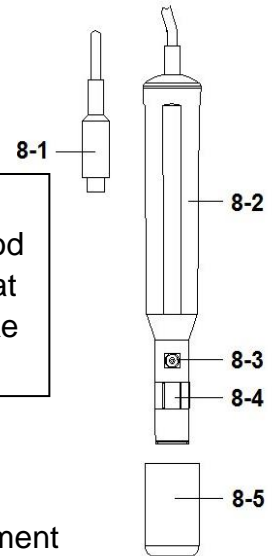

Fig. 5
1. Connect the Probe (optional, DOPB-11), (8-1, Fig.5) into the "DO" Socket (3-14, Fig.1)
When not use the probe, should insert the " Probe head "into the " Probe protection cover "9-1 Probe handle(8-5, Fig. 5)